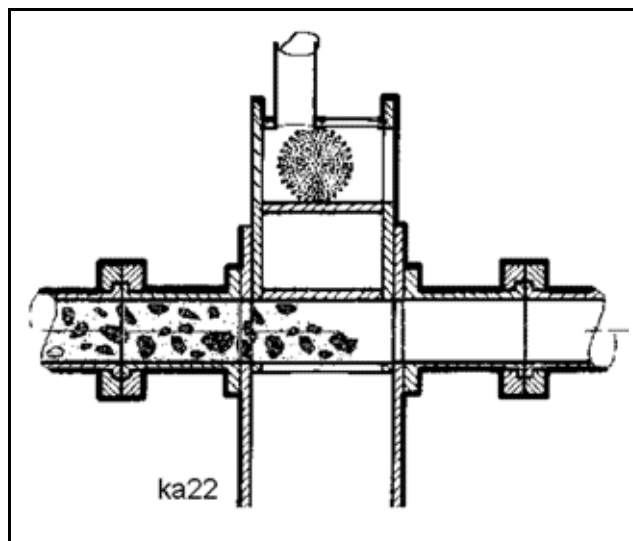

Fig. 513
- Place a soft cleaning ball into the chamber as described above (**Fig. 513**).